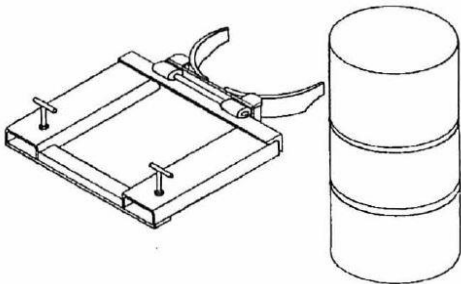

Figure 1.
5. Raise the unit and approach the drum so that the jaws come in contact with the drum just below the upper rolling rib of the drum (Figure 1.).